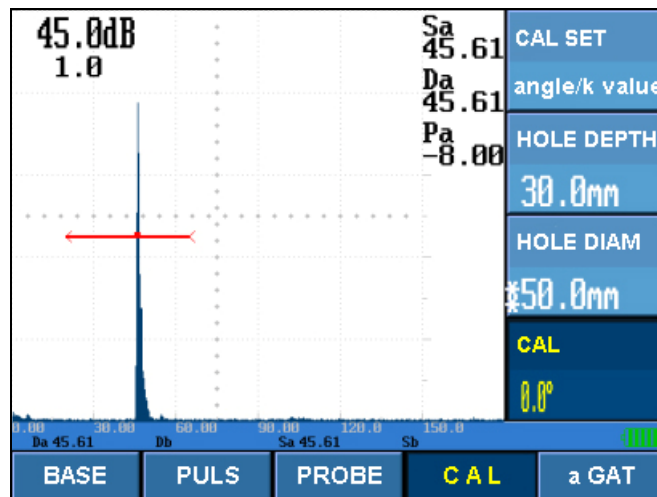

Figure 6-8 Move Gate A to Capture the Highest Reflected Echo of $\phi 50.0\text{mm}$ Hole
- (2) Enter the CAL main menu, choose: CAL SET: angle/ k value; HOLE DEPTH: 30.0mm; HOLE DIAM: 50.0mm. Adjust gain appropriately and move the probe to find the highest echo of $\phi 50.0\text{mm}$ hole.
- (3) Move Gate A to capture the highest reflected echo of $\phi 50\text{mm}$ hole (refer to Figure 6-8). Enter the CAL submenu and press [+] key to finish calibration, and then the result will be displayed in "angle/K value" submenu.